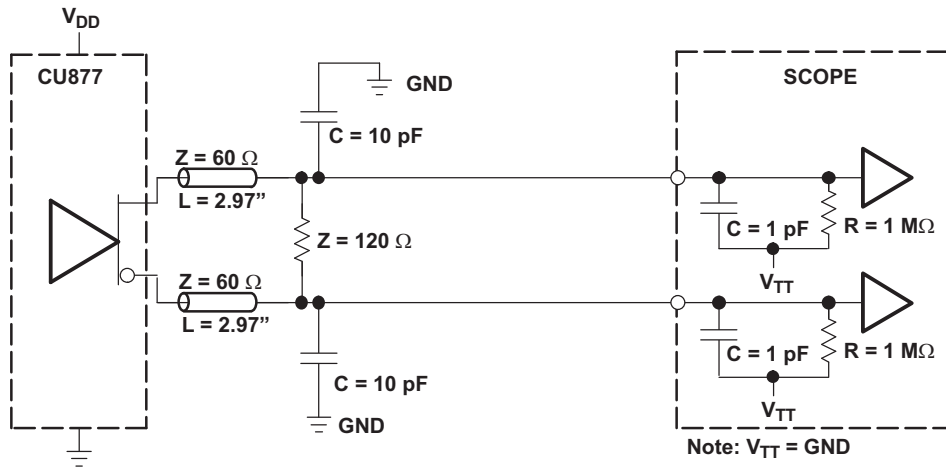
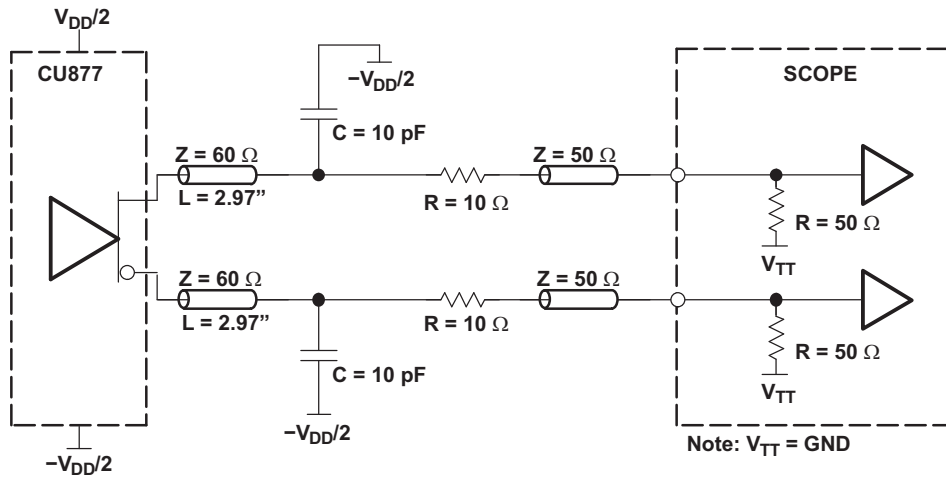
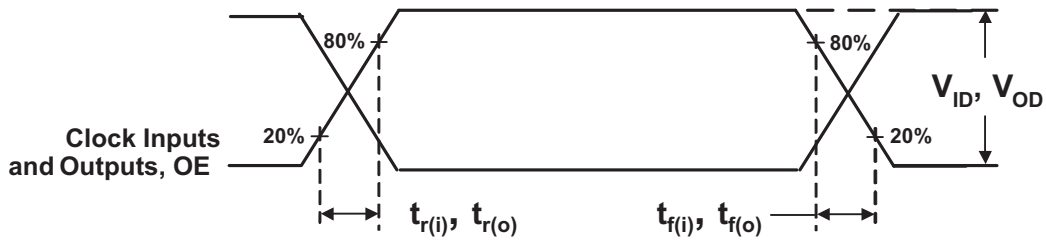

Figure 2. Output Load Test Circuit 1
Figure 3. Output Load Test Circuit 2
Figure 9. Input and Output Slew Rates
| I _{OH} | High-level output current (see Figure 2) | | | | -9 | mA |
| I _{OL} | Low-level output current (see Figure 2) | | | | 9 | mA |
(1) V_{OD} is the magnitude of the difference between the true and complimentary outputs. See Figure 9 for a definition.
(2) Total I_{DD} = I_{DDQ} + I_{ADD} = f_{CK} × C_{PD} × V_{DDQ}, solving for C_{PD} = (I_{DDQ} + I_{ADD})/(f_{CK} × V_{DDQ}) where f_{CK} is the input frequency, V_{DDQ} is the power supply, and C_{PD} is the power dissipation capacitance.
| SR | Slew rate, OE | See Figure 3 and Figure 9 | 0.5 | | | V/ns |
| | Input clock slew rate | See Figure 3 and Figure 9 | 1 | 2.5 | 4 | |
| | Output clock slew rate ⁽⁵⁾⁽⁶⁾ (no load) | See Figure 3 and Figure 9 | 1.5 | 2.5 | 3 | |
| V_{OX} | Output differential-pair cross voltage ⁽⁷⁾ | CDCU877, See Figure 2 | $(V_{DDQ}/2) - 0.1$ | | $(V_{DDQ}/2) + 0.1$ | V |
| | | CDCU877A ⁽⁸⁾ , See Figure 2 (0 - 85°C) | $(V_{DDQ}/2) - 0.1$ | | $(V_{DDQ}/2) + 0.1$ | |
- (1) There are two different terminations that are used with the following tests. The load/board in Figure 2 is used to measure the input and output differential-pair cross voltage only. The load/board in Figure 3 is used to measure all other tests. For consistency, equal length cables must be used.
- (2) This parameter is specified by design and characterization.
- (3) Phase static offset time does not include jitter.
- (4) Period jitter, half-period jitter specifications are separate specifications that must be met independently of each other.
- (5) The output slew rate is determined from the IBIS model with a 120- Ω load only.
- (6) To eliminate the impact of input slew rates on static phase offset, the input skew rates of reference clock input CK and \bar{CK} and feedback clock inputs FBIN and \bar{FBIN} are recommended to be nearly equal. The 2.5-V/ns skew rates are shown as a recommended target. Compliance with these typical values is not mandatory if it can adequately shown that alternative characteristics meet the requirements of the registered DDR2 DIMM application.
- (7) Output differential-pair cross voltage specified at the DRAM clock input or the test load.
- (8) V_{OX} of CDCU877A is on average 30 mV lower than that of CDCU877 for the same application.